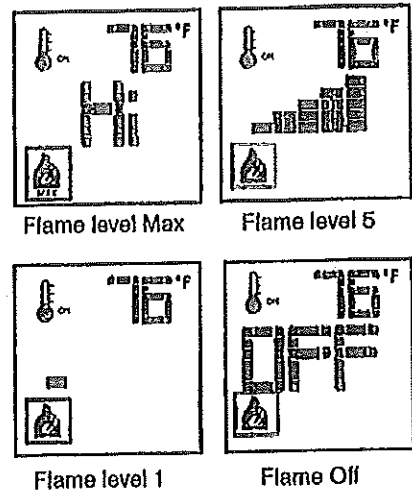

Figure 59: Flame level control.
The Proflame2 has six (6) flame levels. With the fireplace turned on, and the flame level at maximum height, press the down arrow key once to reduce the flame height by one step (Figure 59) until the flame is turned off.